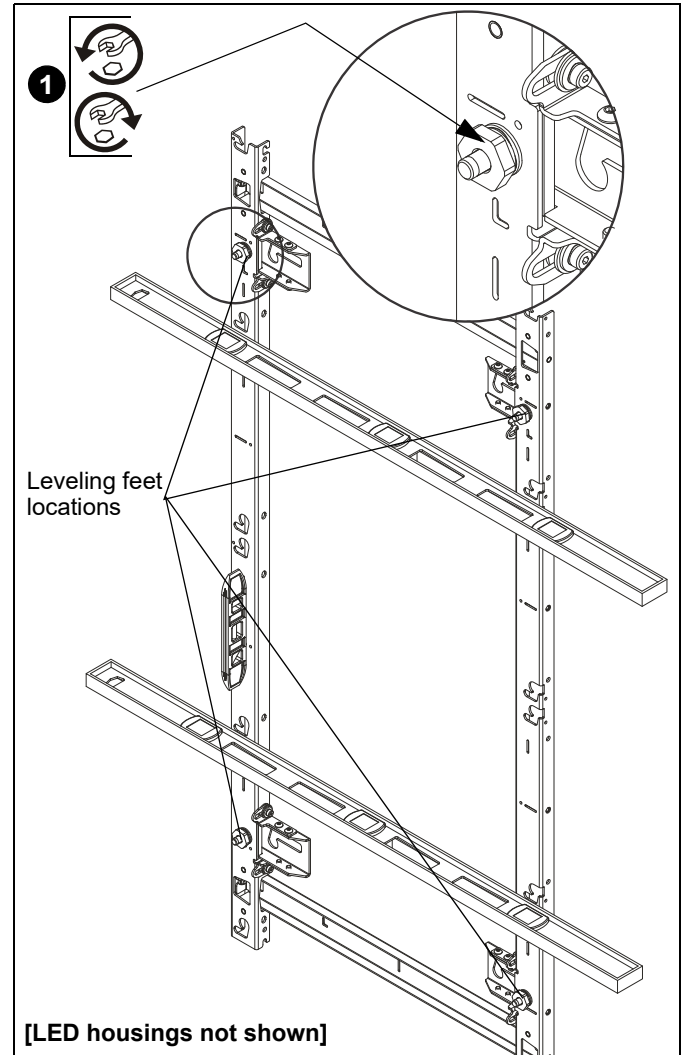

Figure 18
1. Using a level on the front of the housings in various places, loosen or tighten the leveling feet adjust bolt (using a 1" socket and T-handle driver) to assist in leveling the LED housings across the various wall mounts until plumb. (See Figure 18)